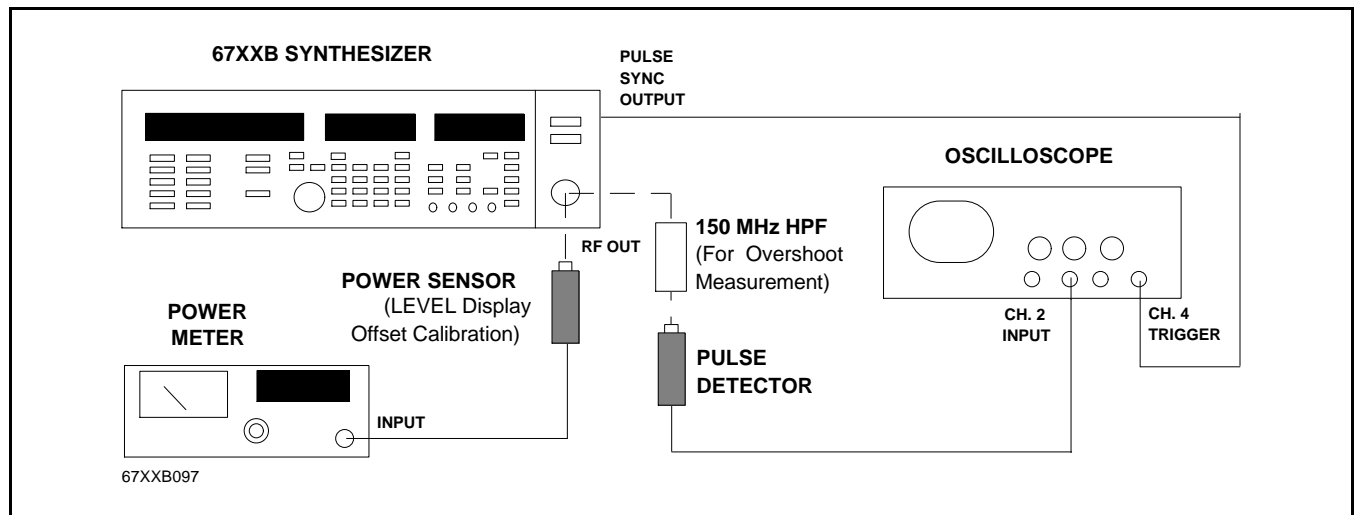

Figure 2-19. Equipment Setup for Pulse Modulation Tests: (Rise Time, Fall Time, Overshoot, and Level)
1. For all models, connect the equipment, shown in Figure 2-19, as follows: